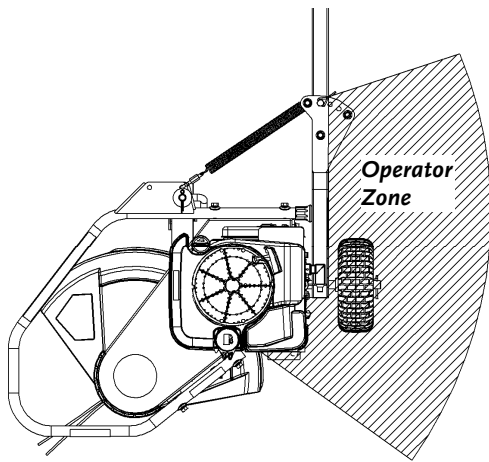

Figure 24
- When using the Trimmer, make sure you are standing in the safe operating area (OPERATOR ZONE) as shown in **Figure 24**. You must stay in the safe operating area at all times when starting or stopping the machine.